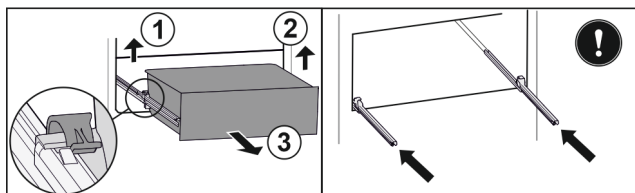

Fig. 43
- Lift left clamp and simultaneously pull drawer forwards on the left. Fig. 43 (1)
- Lift right clamp and simultaneously pull drawer forwards on the right. Fig. 43 (2)
- Remove drawer to the front. Fig. 43 (3)